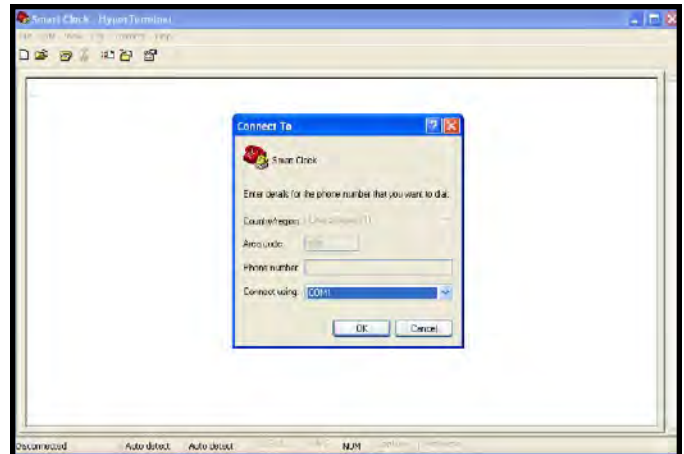

Figure 101. "Connect To" prompt
- VIII. In the "Connect To" window, select the used COM port in the drop down list then click the "OK" button (see Figure 101).